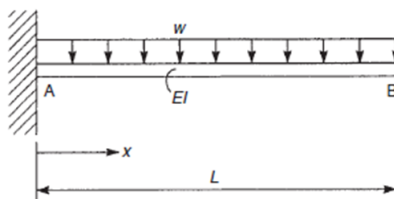

Figure 1
- (b) Determine the vertical deflection of the free end of the cantilever beam shown in Figure 1 by virtual work method.